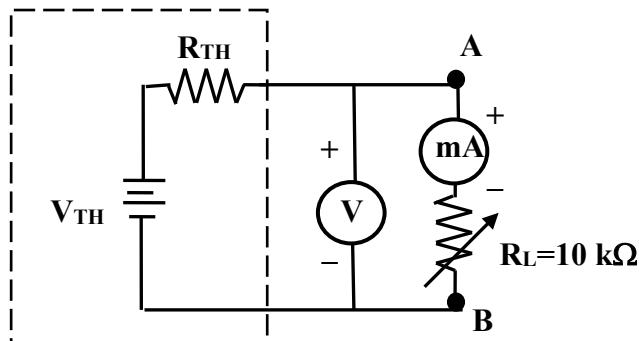

Figure 4: Measurement of V_{RL} and I_{RL} using Thevenin's equivalent circuit
6. Redrawn a fully labeled circuit diagram (Figure 4) of the circuit given in Figure 1(b) in your laboratory sheet showing meter connections in the respective positions to measure the voltage (V_{RL}) across and current (I_{RL}) flowing in R_L . Mark the values of V_{TH} and R_{TH} obtained in step 4 and 5, respectively in the diagram.